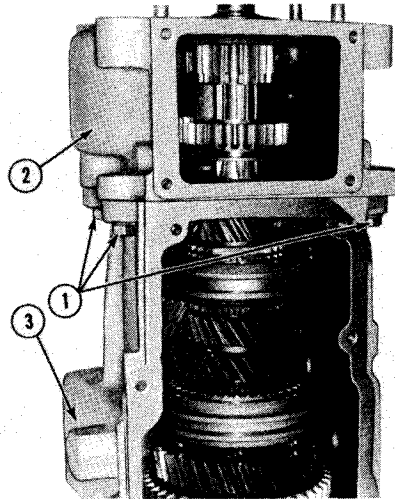

Figure 4-23
Remove cap screws and washers (1, Fig. 4-23) separating reversing housing (2) from transmission housing (3).